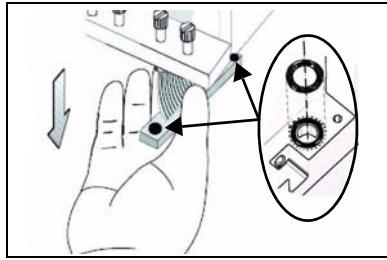

Figure 6-61: O-ring seals on the print head
13. Inspect the replacement head, and make sure that the O-ring seals are in place (see figure 6-61).